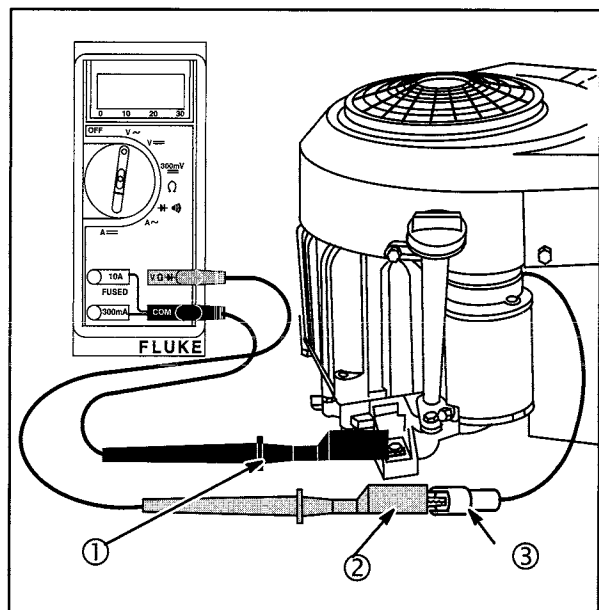

**Fig. 10**
1. Stator assembly (1), **Fig. 10**, is 5 amps or 14 volts AC for lighting circuit.
2. One BLACK lead from stator (2).
3. WHITE connector output lead (3).